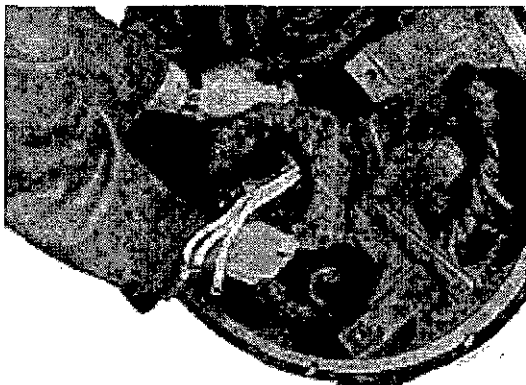

Figure 6-16
5. Carefully remove the PMG stator from its mounting pads and slide over the PMG rotor. The magnets used in the PMG are very strong and will resist removal of the PMG stator. (Figure 6-16.)